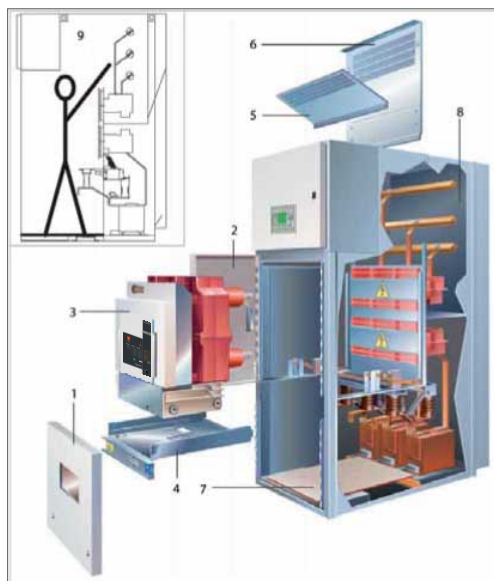

Figure 37
1. Remove cable compartment cover (Figure 37, 1).
5. Unscrew pressure relief flap (5) and take it out in forward direction.
6. Remove partition plate (6) to busbar compartment and take it out in forward direction.
7. Insert temporary base plate (7) to enable safe access to the cable compartment.